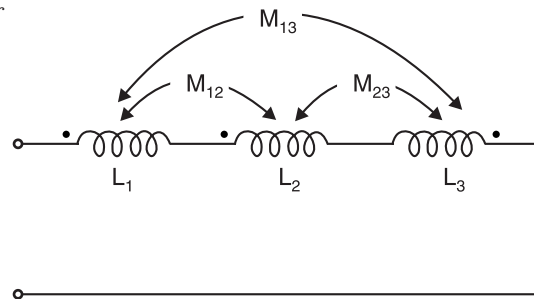

Fig. 9.23
**Example 9.35.** Find the total inductance of the circuit shown in Fig. 9.23.